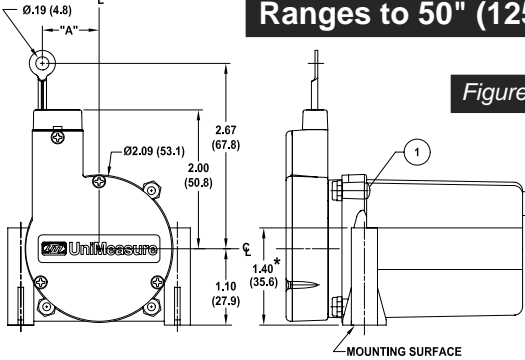

Figure 1
To rotate wire rope exit location, loosen four screws (item 1, Figures 1 & 2) which retain mechanism to mounting housing. Note that alignment marks on mechanism occur at 45° intervals. Rotate housing to desired position and torque screws to **50 oz-in (0.35 N-m)**.